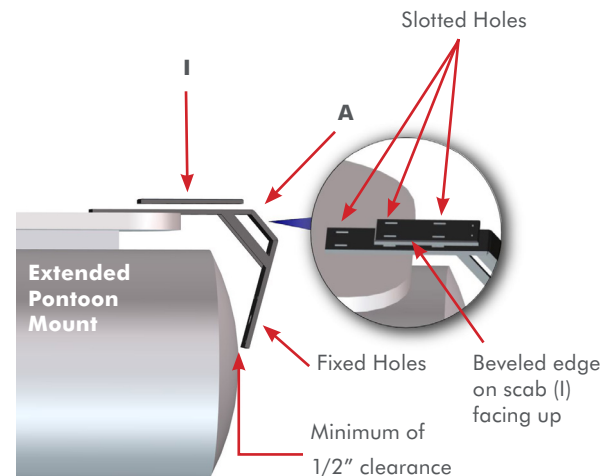
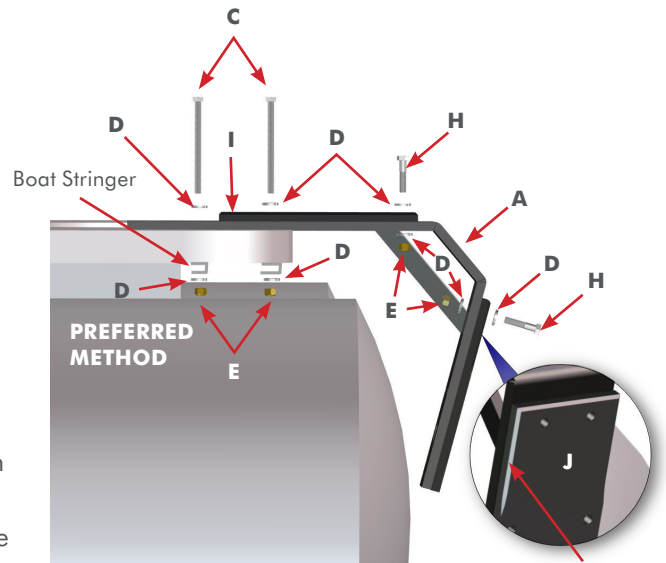
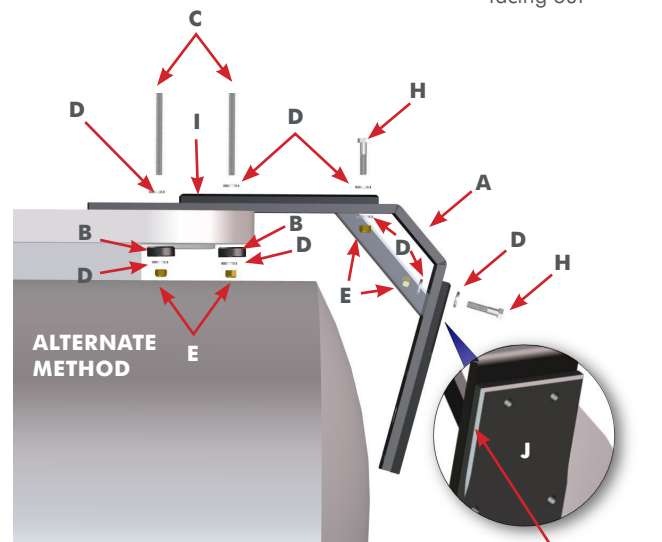

Figure 1
Figure 2
Figure 3
- 1.1 Place the deck mount adapter plate **(A)** & deck mount scab **(I)** on top of the boat deck directly behind the pontoon. The deck mount scab **(I)** has a beveled edge that should face up. **FIG. 1**.
- 1.2 With the deck mount adapter plate **(A)** & deck mount scab **(I)** in position as illustrated **FIG. 1** ensure the underside of the boat deck has adequate clearance for the 5" mounting bolts **(C)**. **FIG. 2** or **FIG. 3**.
NOTE: These holes should pass through a stringer as shown in the preferred method **FIG. 2** or have adequate space to install the Backer plates (**B**) as shown in the alternate method **FIG. 3**.
2.3 Install the hardware with upper and lower deck mounts scabs (**I**) and (**J**) in place as illustrated for the preferred method **FIG. 2** or the alternate method **FIG. 3**.